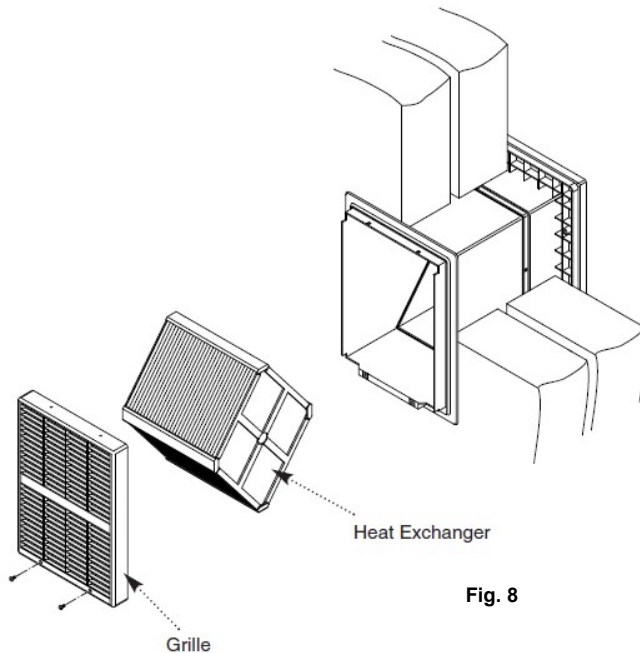

Fig. 8
4. Undo the two grille securing screws and remove the grille (Fig. 8).
6. Slide out the heat exchanger (Fig 8).